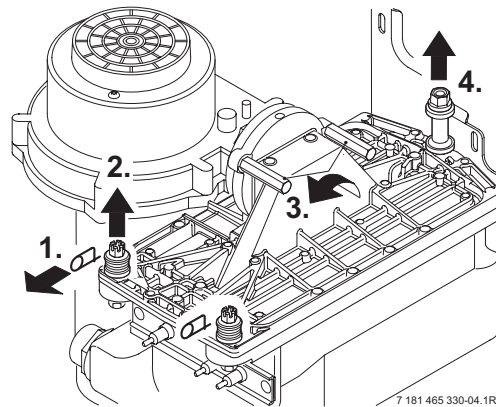

Fig. 55
- Remove the clips (1) and unscrew the two bolts (2). Refer to fig. 55.
- Unscrew and remove the two hexagon screws securing the fan (3).
- Slacken fully the rear securing bolt (4).